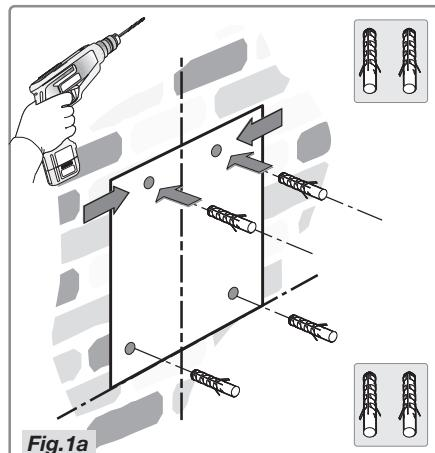

Fig. 1a
- Place the template on the wall and ensure that the line corresponds to the line previously drawn on the wall. Mark the position of the holes and drill these (Fig.1a).